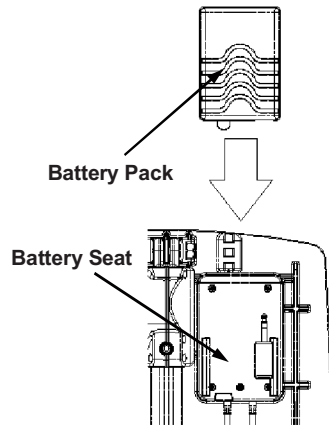

Fig. 5.
Align and slide the Battery Pack onto the Battery Seat on the backrest as shown in Fig. 5. to connect the Battery Pack. Lift the clip on the lower portion of the Battery Pack and pull it away from the Battery Seat to disconnect.
1. Remove the Battery Pack from the Bath Lift, as shown in Fig. 5.